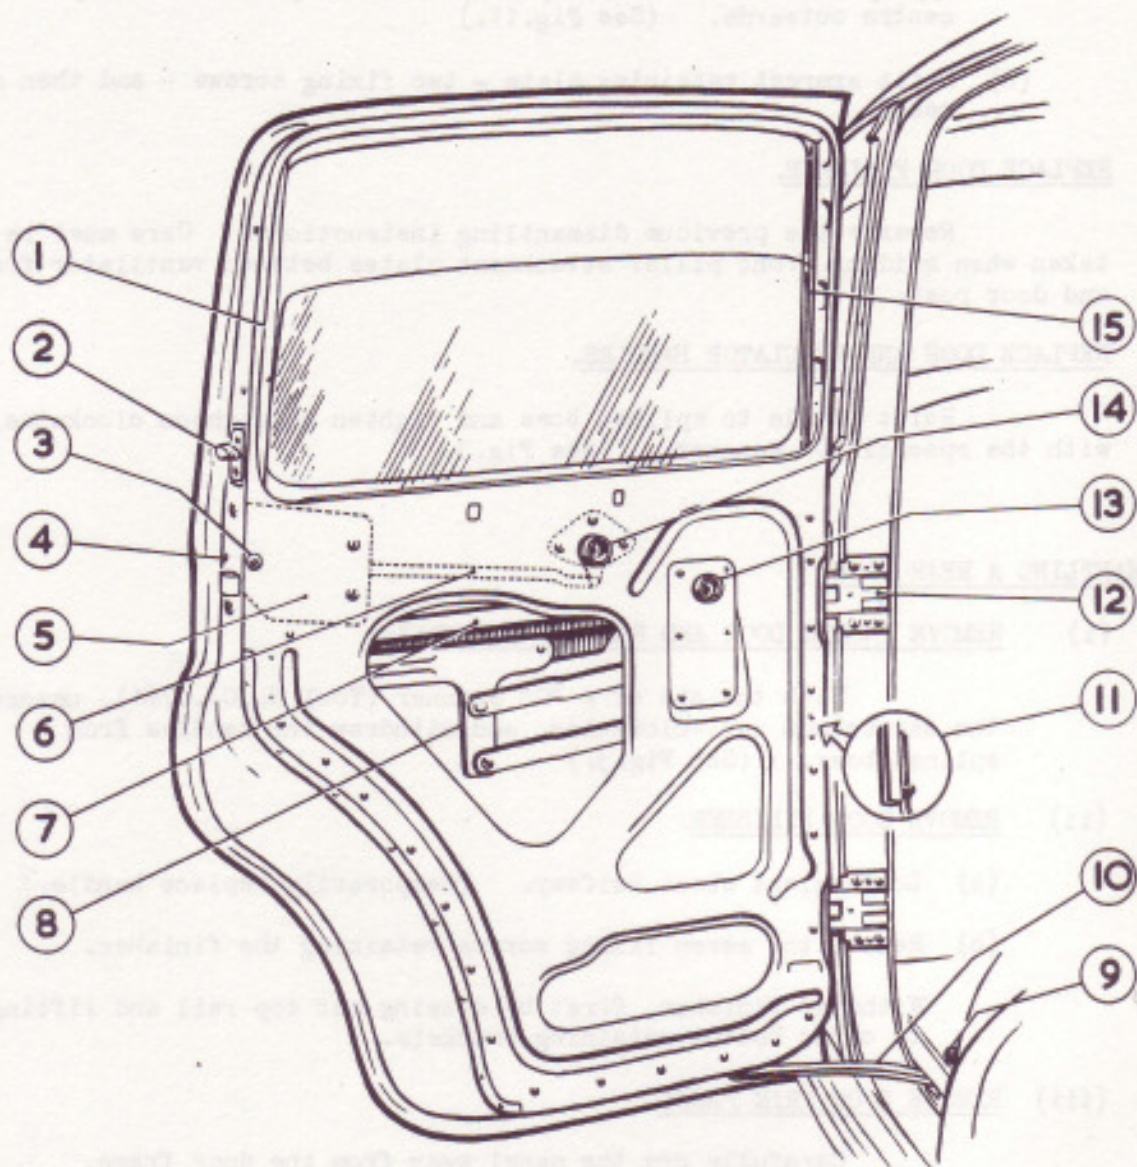

FIG. 12. REAR DOOR.
- (a) Remove escutcheon locking screw (4, Fig.12), from the edge of the door.
- (b) Remove screw (3, Fig.12), from handle shank.
Check glass for slackness in glass run-channel, and if necessary, proceed as advised for similar complaint on front door. Also examine bottom hooks for breakage. (11, Fig.12.)
- (b) Feed regulator rollers into the appropriate channel of the lower glass support-channel (7, Fig.12), and refix regulator with its six retaining screws.